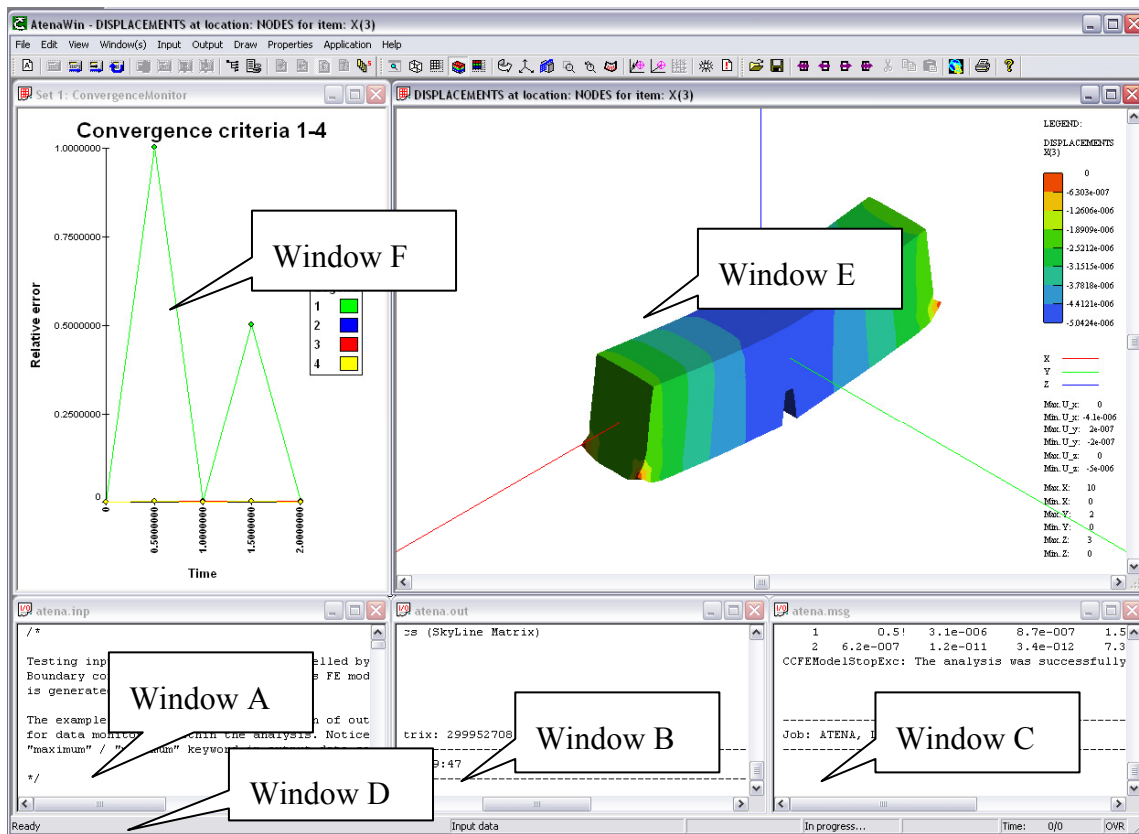

Figure 1 Typical windows during AtenaWin execution
- Input stream. It includes input commands describing an analysed problem . The commands and their syntax are described in separate document ATENA Program Documentation, Part 6, ATENA Input File Format. As an example of such a file see Window A from Figure 1
- Output stream. It comprises all output data from the analysis, as requested by OUTPUT commands. As an example of such a file see Window B from Figure 1.
- Message stream. The stream brings all vital information from the analysis. It can be understood as a sort of journal file from the execution. As an example of such a file see Window C from Figure 1.
- Error stream. This stream is similar to the above message stream, however, the information is more detailed and it includes also some less severe warning and comments from the analysis. As an example of such a file see Window D from Figure 1 Figure 1.